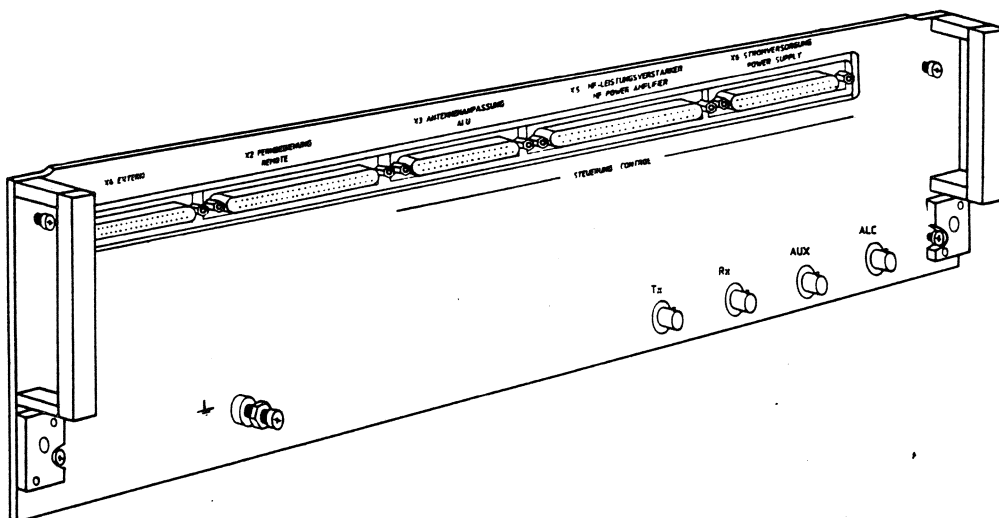

Fig. 2.1 Arrangement of Interfaces at Receiver/Exciter GX 859C1
3. Connect the rack internal cables to the receiver/exciter acc. to Fig. 2.1 and 2.2.